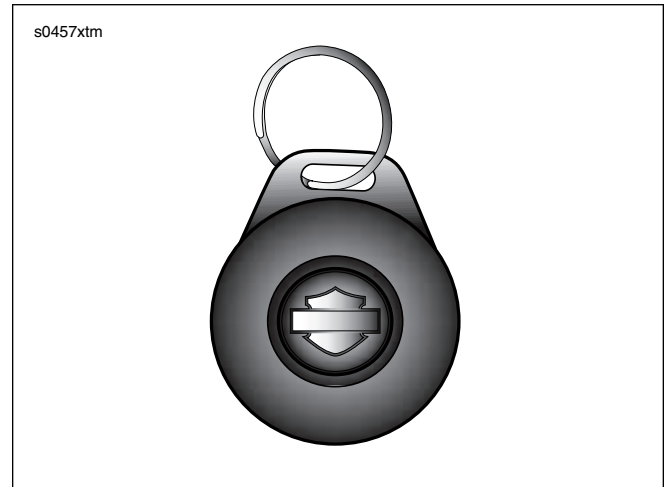

Figure 3-4. Key Fob
- **Remote arming/disarming:** See Figure 3-4. Owners may enable and disable security alarm and immobilization functions with a remote, personally carried transmitter. This transmitter is referred to as a **key fob** within this document.